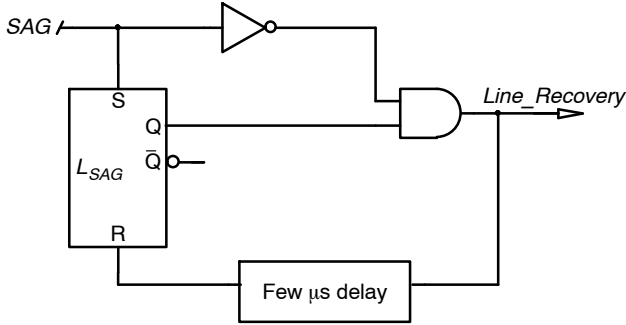

Figure 19. “Line_Recovery” Signal
- When the soft-stop sequence ends, the PFC stops operating until the T_{BUV} delay has elapsed (515 ms typically). However, if the BUV protection trips during a line sag condition, the T_{BUV} delay is bypassed and operation immediately resumes when the line recovers. The wakeup information is provided by signal “*Line_Recovery*” generated by the line-sag block (see Figure 19). This enables a rapid operation recovery when the line fault is over.